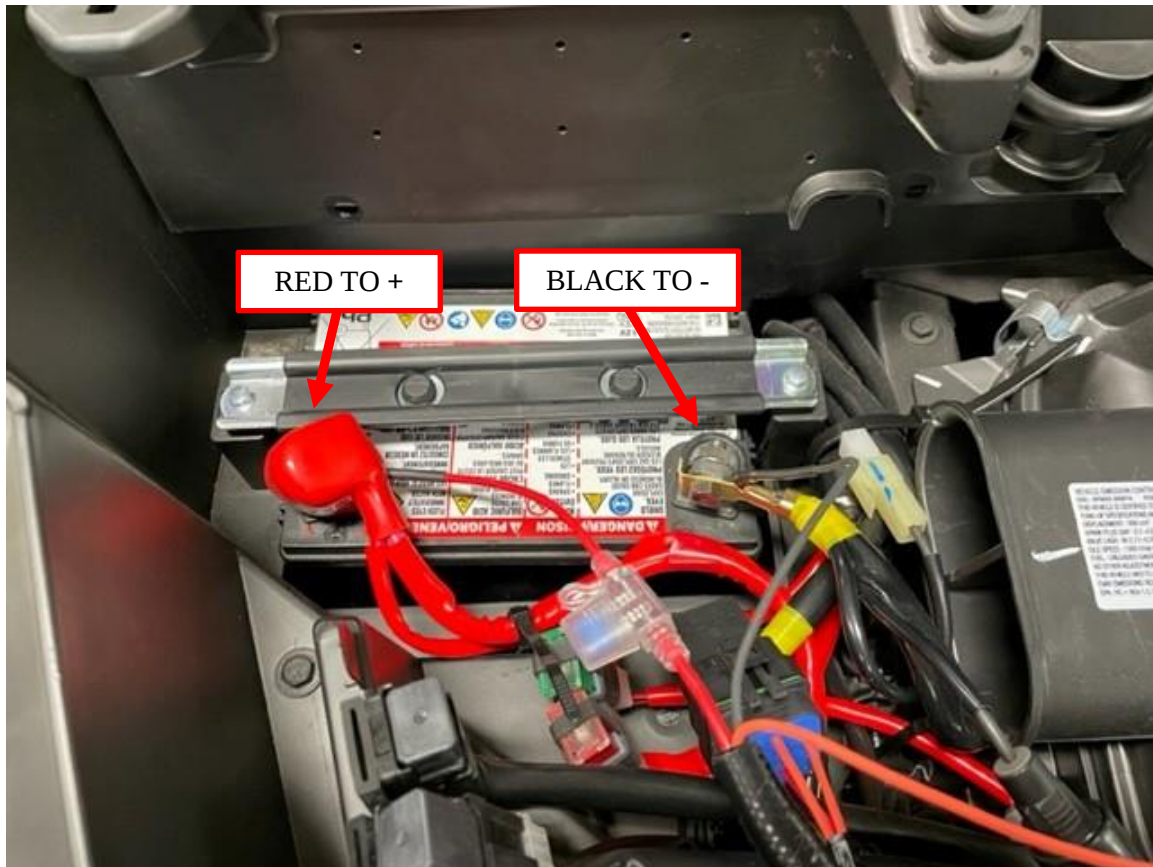

Figure 15: Battery cable connections.
14. Connect the chassis harness battery cables to the battery, clamping the cables on top of any existing cables with the factory hardware. Connect the red harness wire to the terminal with the existing red battery cable (+ 12V). Connect the black harness wire to the terminal with the existing black battery cable (- 12V). See Figure 15.